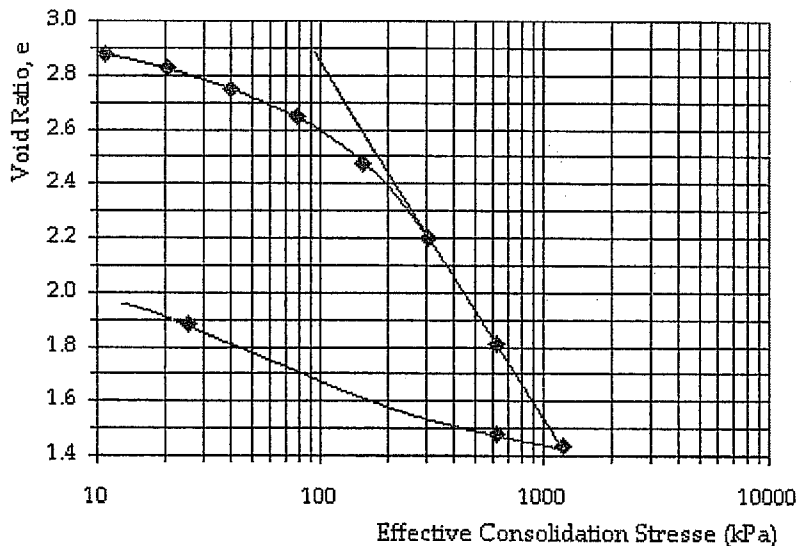

Figure Q5(a)
5. Figure Q5(a) shows a plot of  $e - \log \sigma'_v$  obtained during a One-dimensional Consolidation Test. The sample had an initial height,  $H_0 = 20\text{mm}$ ; average diameter =  $50\text{mm}$ ;  $e_0 = 2.93$ ; total settlement,  $\Delta H = 2.805\text{mm}$ .